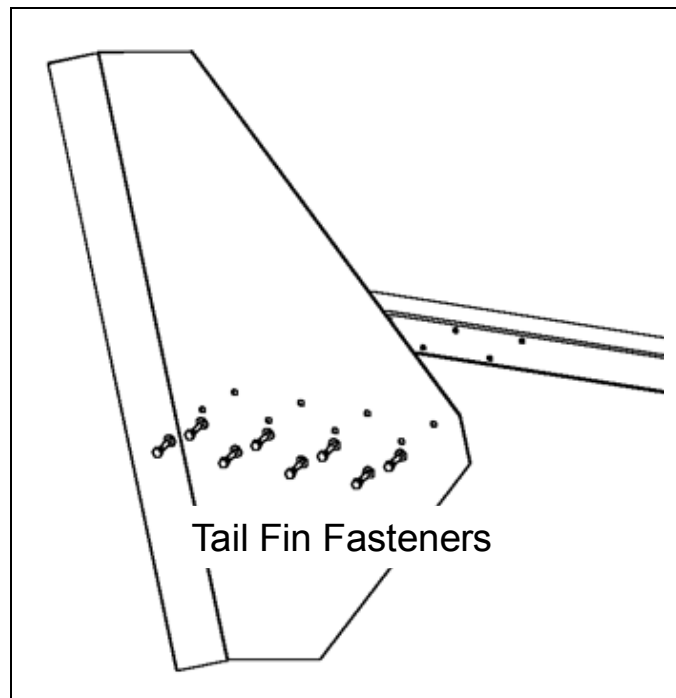

Figure 6: Tail Fin Attachment
Bolt the tail fin to the tail boom using the (8) M5-0.8 x 10mm bolts and (8) M5 flat washers provided, as shown in **Figure 6**. We recommend applying Loctite to the bolt threads prior to assembly.